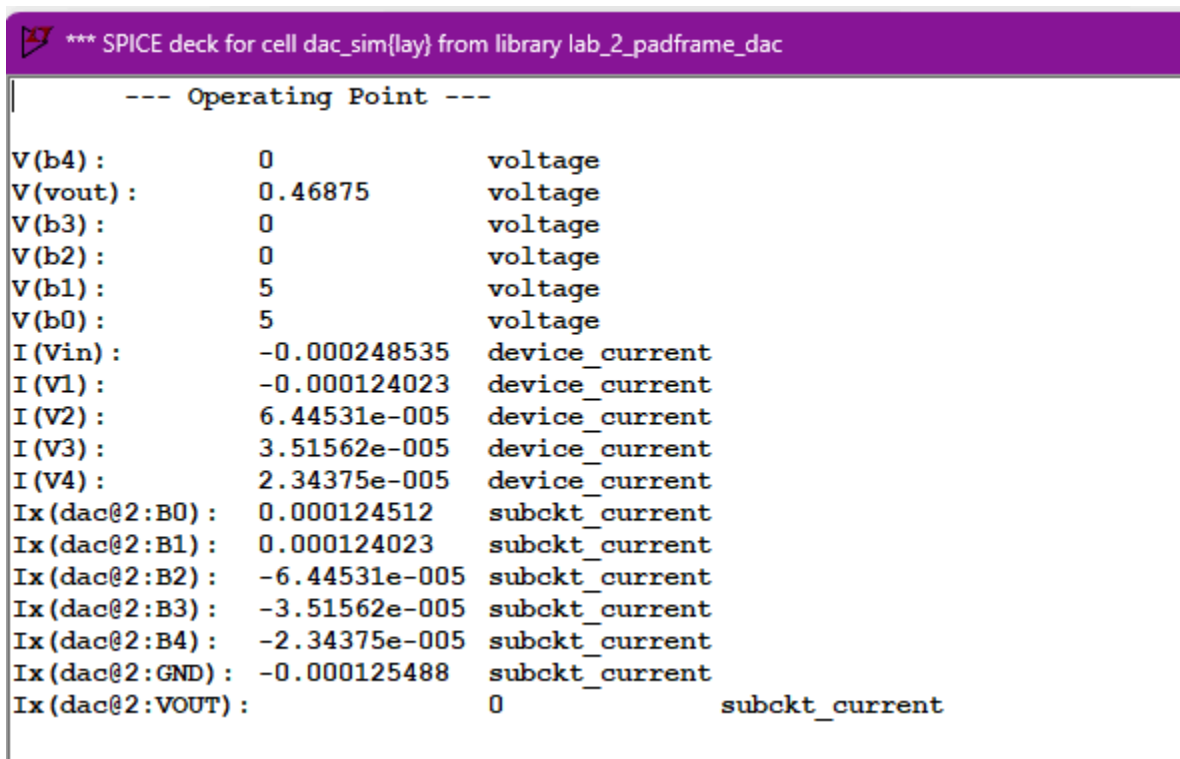

Figure 3.3: Simulation of 5-bit DAC
- Below is the layout and 3D view of the 5-bit DAC. I included some spice code to confirm 5-bit DAC functionality, as shown in the simulation in Figure 3.3.